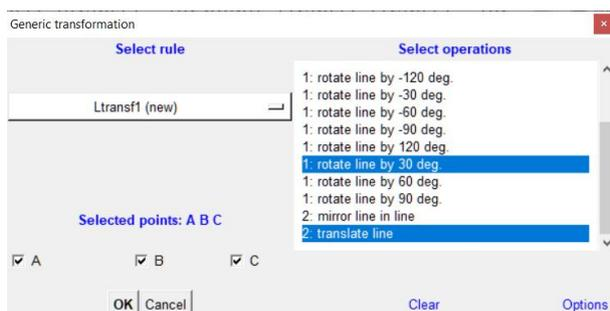

Figure 57
3. A form appears (Figure 57), the name of the declared rule is Ptransf1, Ptransf2,... for points, Ltransf1, Ltransf2,... for lines, Ctransf1, Ctransf2,...for circles.
We first comment on the form for declaring rules for transforming lines. Recall that the form appears after a line was selected in the base construction. In our case (Figure 57), the base example clearly contains points A,B,C. You need to select the operations and the points that define the operations. In Figure 57, three points have been selected and two operations (rotation by 30 degrees and translation). Rotation by 30 degrees is defined by 1 point (see '1:' in front of the name of the operation). Thus the generated line in the examples is the original line rotated by 30 degrees around A, around B and around C. In further examples (resulting from the same rule) the generated line is the translation of the original line by vectors AB, BA, AC, CA, BC, CB. Altogether, the rule produces 9 lines, which are transformations of the original line.